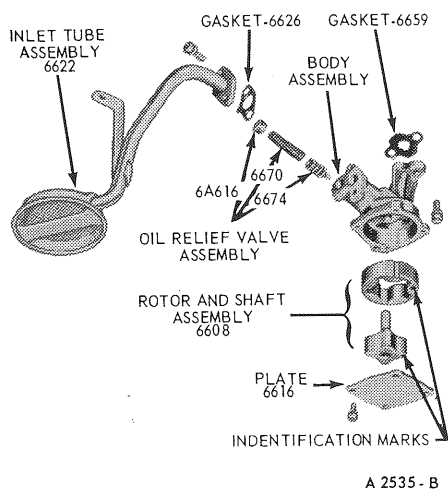

FIG. 59 Oil Pump and Inlet Tube Installed
3. Remove the oil pump attaching bolts (Figure 59), and remove the oil pump gasket and intermediate drive shaft.